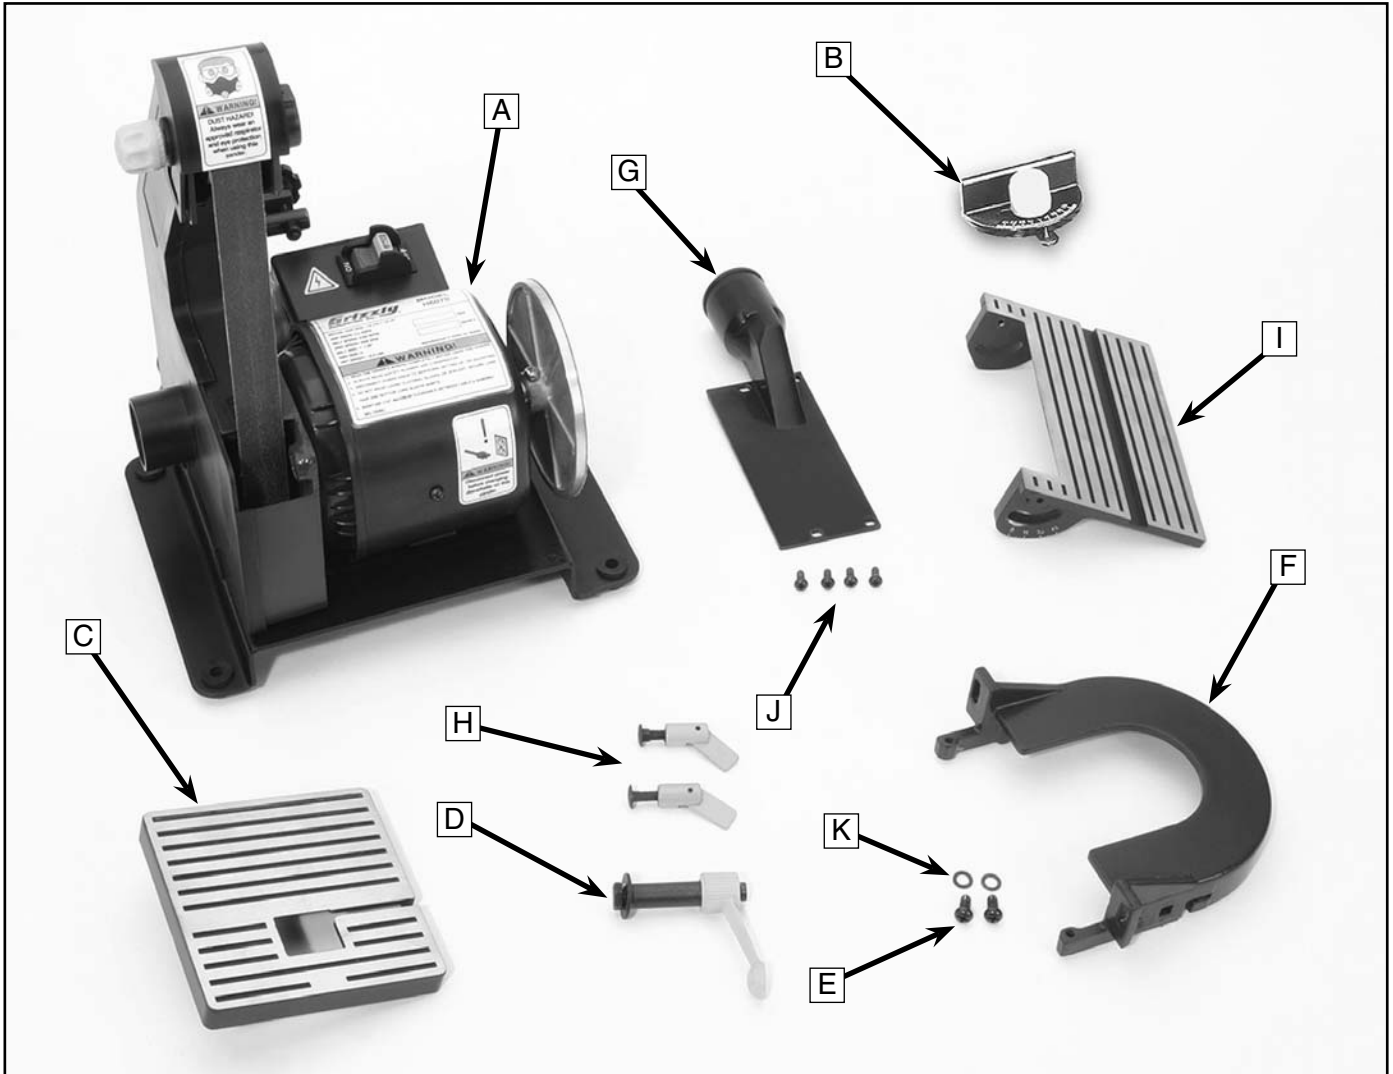

Figure 3. Model H6070 packaging inventory.
Use **Figure 3** and the list below to inventory the hardware and components for the Model H6070. If you have any questions, please call our customer service at (570) 546-9663.